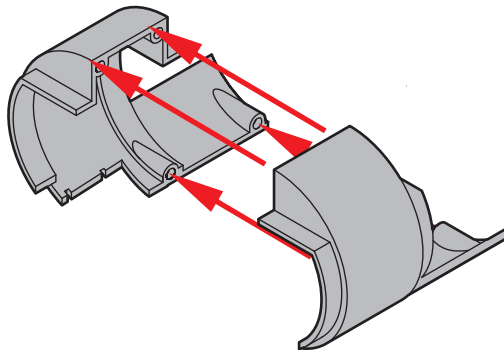

Figure 2
- E Make sure that the mating faces of the two halves of the fuselage plug are flat, then assemble them with epoxy cement (see Figure 2).